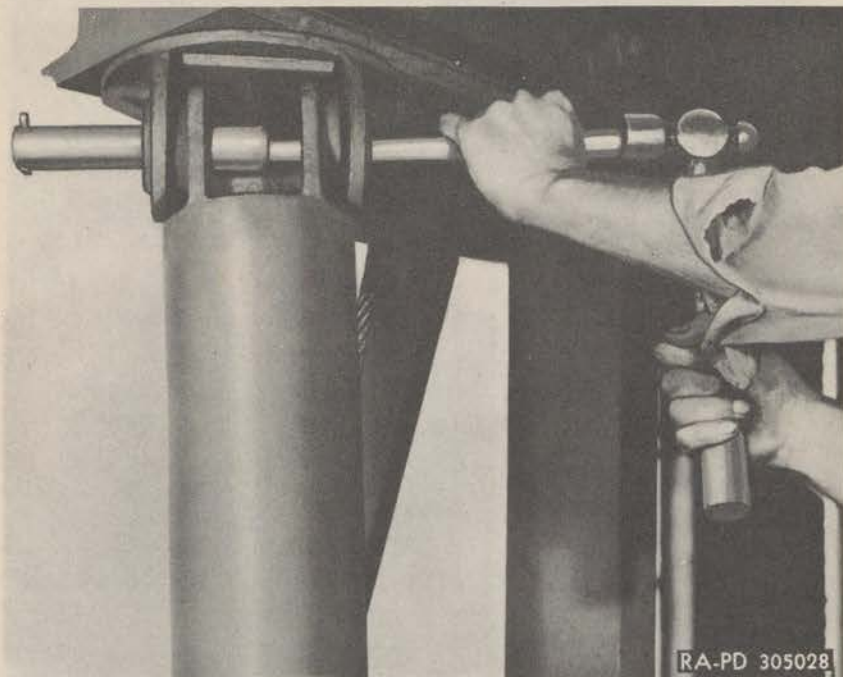

Figure 189—Driving Out Brace Leg Pivot Pin
b. **Remove Brace Leg.** Remove one cotter pin from the brace leg pivot pin, and drive the pin out of the pivot bracket, using a hammer and punch (fig. 189). The punch will support the brace leg as the pin is removed. When the punch is taken out, brace leg may be removed.